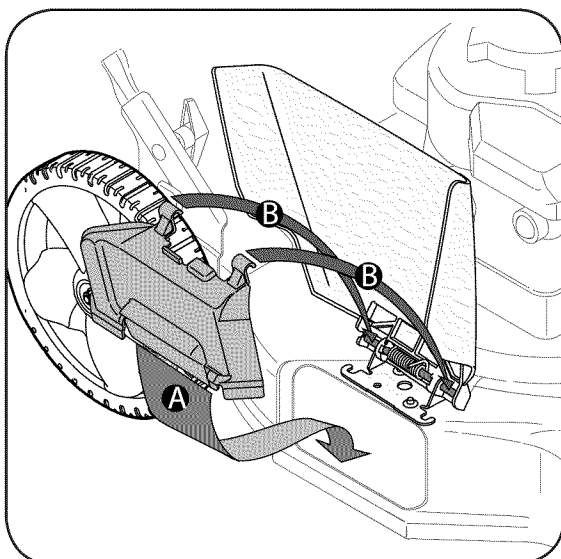

Figure 8
8. If your mower is equipped with an optional mulching baffle, install it as shown in Figure 8.